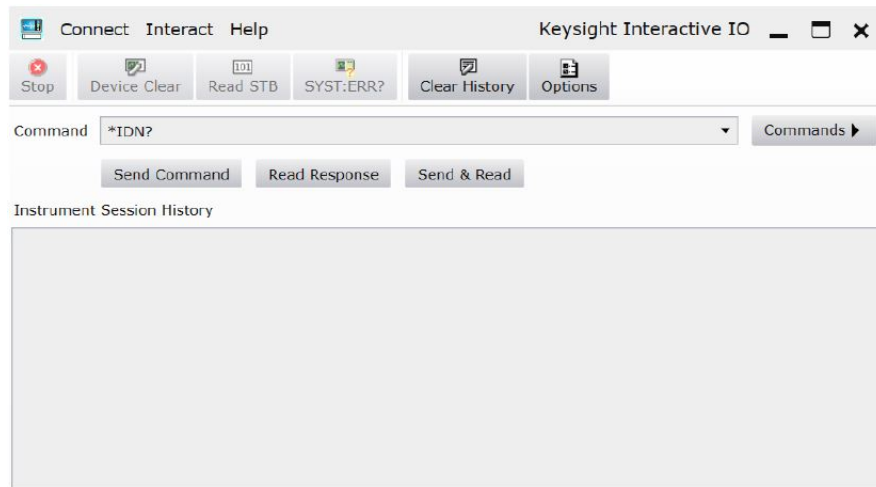

Figure 2-5 Keysight Interactive IO.
- 4 The remote interface instrument identification information will appear on the **Instrument Session History** as shown in Figure 2-5.